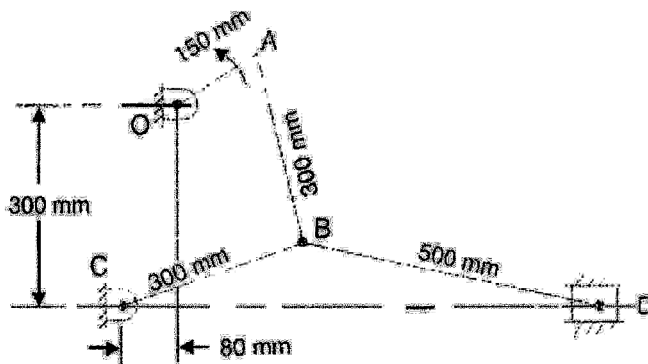

Fig Q. 12 (a)
12. a) Fig Q. 12 (a) shows a toggle mechanism in which link D is constrained to move in a horizontal direction. Find the velocity of slider D and angular velocities of links CB and BD. Crank OA rotates at 60 rpm in anticlockwise direction. OA is at 45° to the horizontal. Use graphical method.